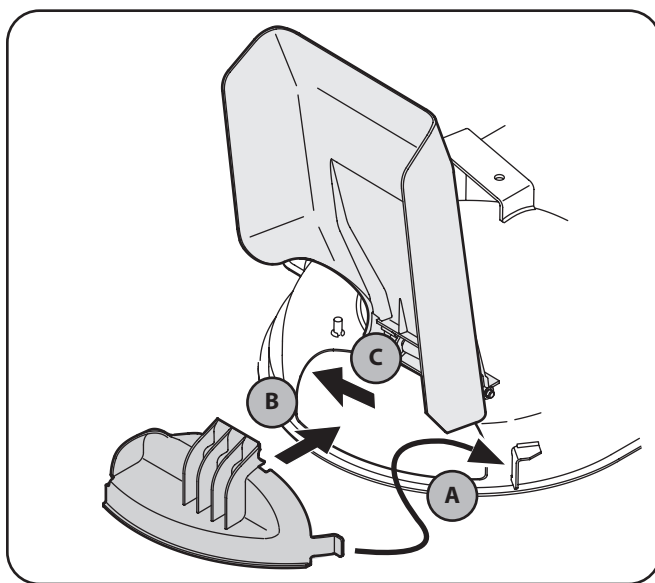

Figure 5-1
1. Insert the right-side tab (A) of the baffle into the bracket on the deck. See Figure 5-1.
2. Insert the mulch baffle into the discharge opening (B). See Figure 5-1.